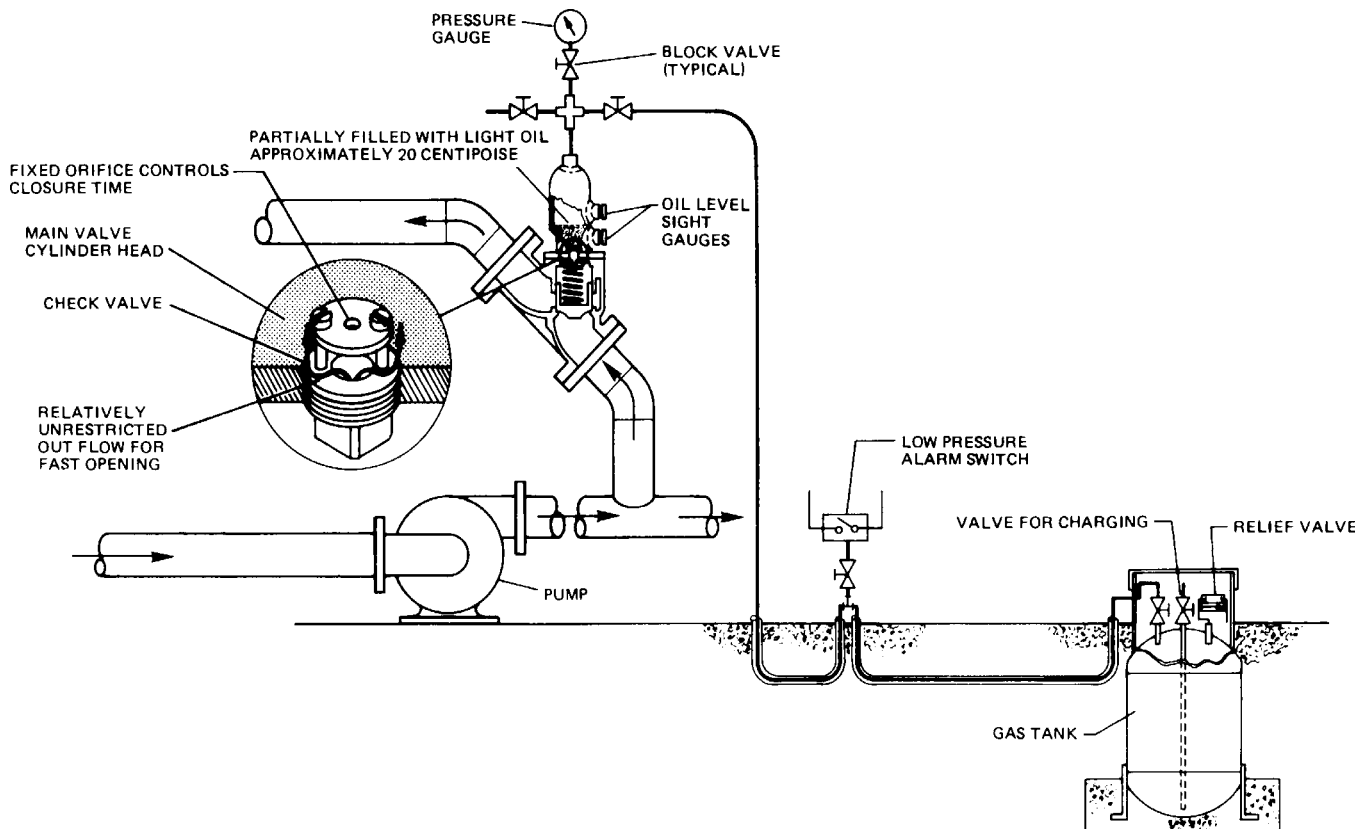

Figure 1 Excess Pressure and Surge Relief or Pump By-Pass Control
The Model 762 is normally closed and opens on increasing inlet pressure. The basic valve is of the balanced piston operated design. Refer to Typical Installation Schematic (Figure 1). Pressure applied to the nose of the piston is equally transmitted to the spring side of the piston. When the line pressure on the nose of the piston exceeds the gas pressure, the moveable barrier of oil compresses the gas, and the valve opens. As line pressure falls below set point, the gas pressure, added to the spring pressure closes the valve and it remains closed as long as gas pressure is greater than line pressure. Opening and closing speed are controlled by a check valve mounted to the internal surface of the cylinder head. Opening speed is relatively unrestricted which results in very fast opening response. Closing speed is controlled by a fixed orifice in the check valve.
Product movement by pipeline requires over-pressure protection. Response time to pressure rise is very critical. Many times a pilot operated or a conventional direct operated spring biased relief valve cannot react fast enough to limit surge pressure to a desirable level. The Model 762 will respond very fast and only relieve the necessary volume of product to decrease pipeline pressure to or below set-point. The typical application schematic shown, (Figure 1), is very common for pipeline use. Surges and excess pressure are normally caused by: (1) Inadvertently closing a main line valve, (2) Closing a main line valve too fast, (3) Pump startup, (4) Stopping a pump with potential reverse flow, (5) Failure of a pipeline booster pump.
The Model 762 is ideally suited for constant pump by-pass control to regulate pump discharge pressure. Also, in this application, the valve will control surges. (Reference Figure 1).
The schematic, (Figure 1), shows the valve mounted at a 45° angle position. This is the preferred orientation, so that the piston is vertical. This distributes the weight of the piston equally and gives equal resistance to piston O-Ring movement. Standard horizontal mounting is available. Whether mounted at 45° or horizontal, the oil reservoir is in a vertical position. The type of mounting must be specified.